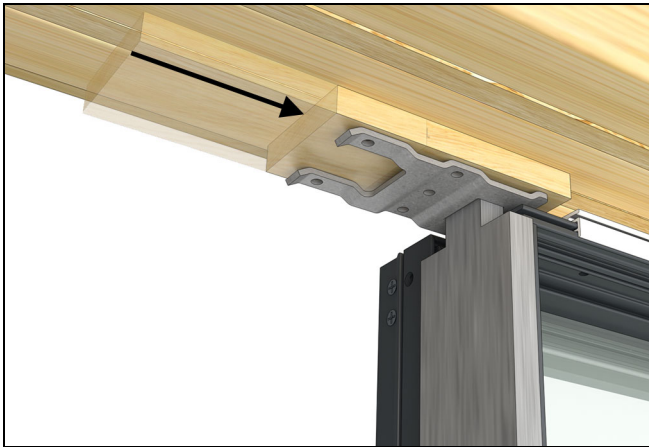

Figure 49
15. Shim the top bracket so that when it is fastened to the RO it will be no more than 1/8" away from the top of the frame/shim block. See Figure 49.